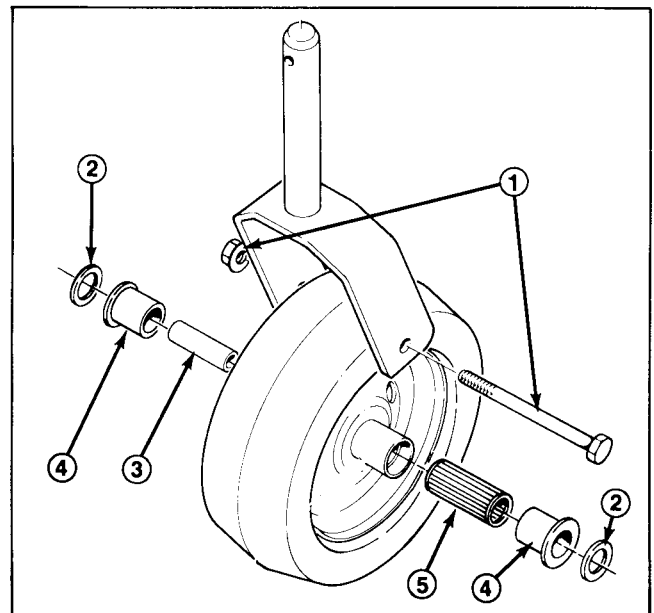

Figure 27
1. Remove capscrew and locknut holding caster wheel and (2) washers between caster fork (Fig. 27).
2. Pull spanner bushing out of wheel hub (Fig. 27).
3. Remove bushing from wheel hub and allow bearing to fall out (Fig. 27). Remove bushing from opposite side of wheel hub.